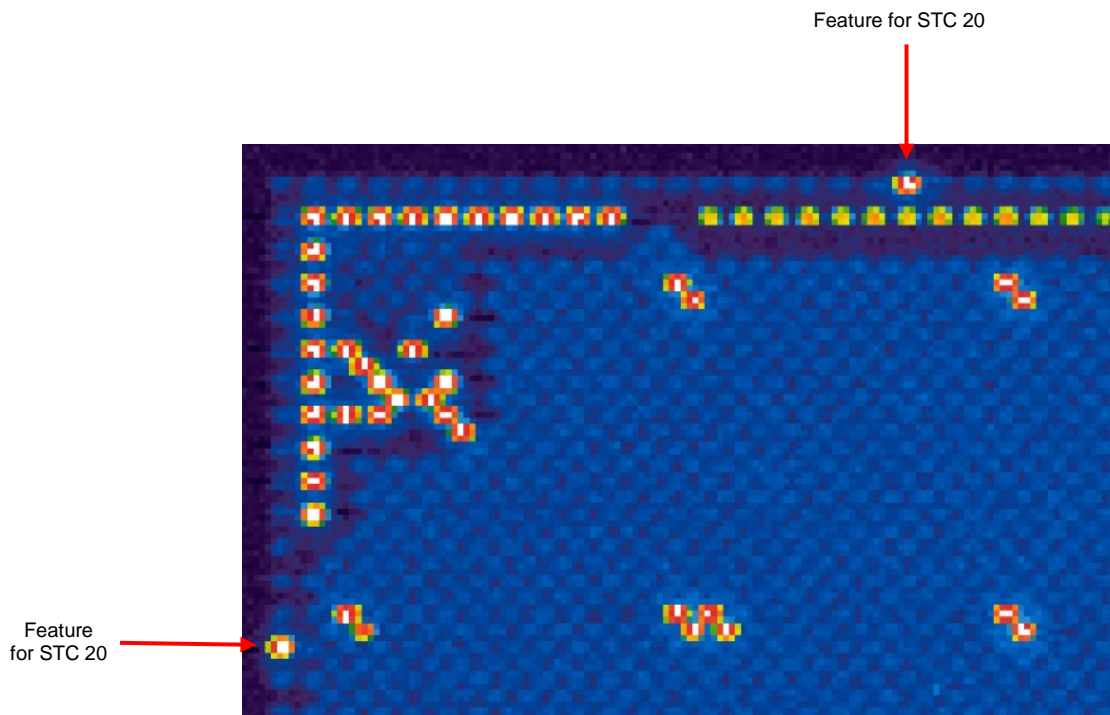

Figure 13: Example of an Array Hybridized with Sample Containing STC 20
6. Locate the repeating set of 20 features along the perimeter of the array. Figure 13 shows an example of an array hybridized with a sample containing STC 1.